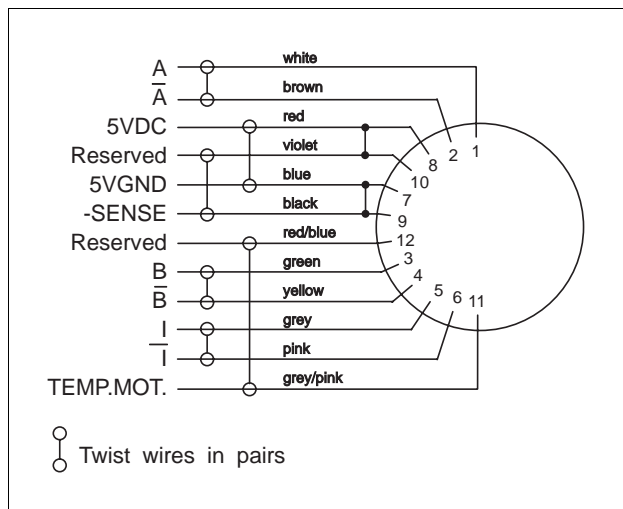

Fig. 2-8 Shaft encoder connector – motor side
8. Fasten connector on the front panel (item 05) with screws.
9. The litz wires of the shaft encoder cable must be twisted in pairs in accordance with fig. 2-8. Litz wires 7-9 and 8-10 must be connected on the motor side.